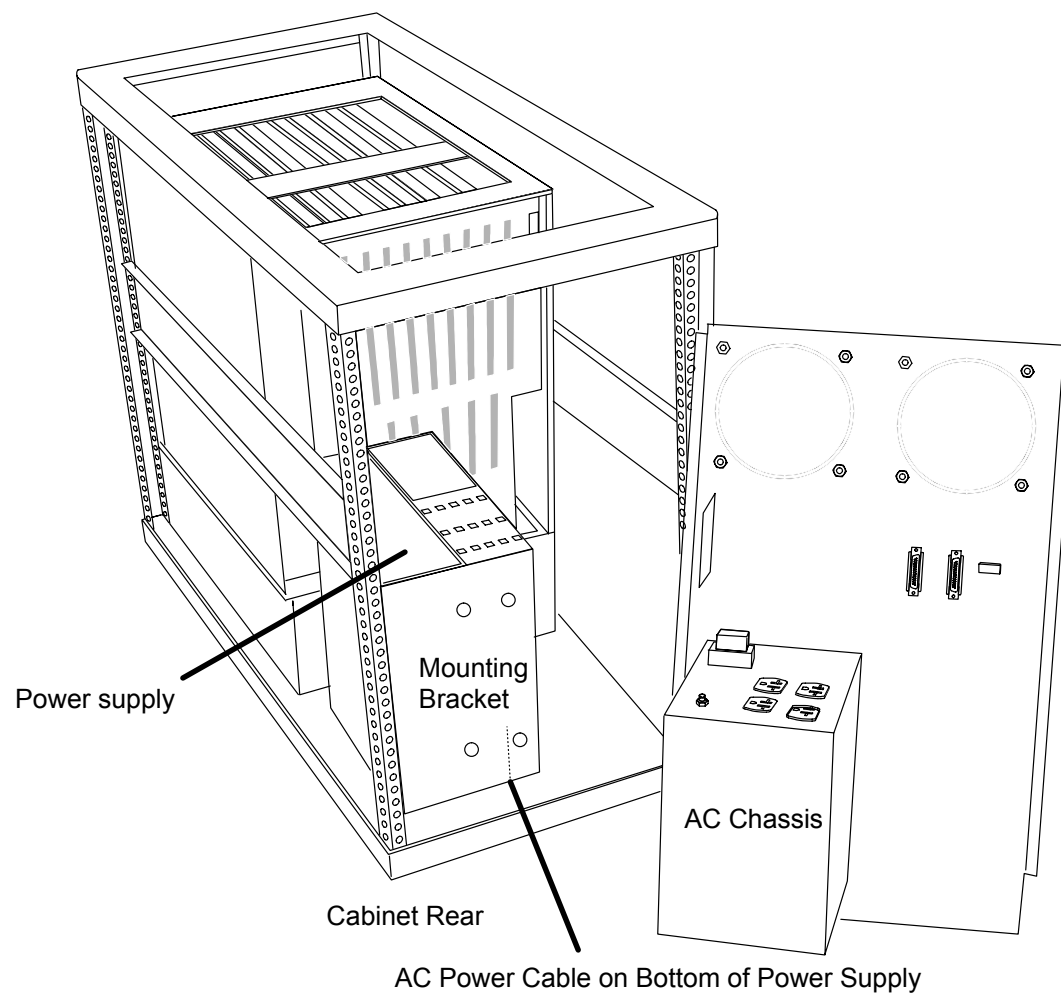

FIGURE 338 Power Supply Location on AcQImage Cabinet
3. Disconnect the Signal I/O panel cable (gray cable no. L11048) plug P1197 from transition module 178155 connector J1197 located on the right side of the backplane. Swing the rear panel out as shown in Figure 338.